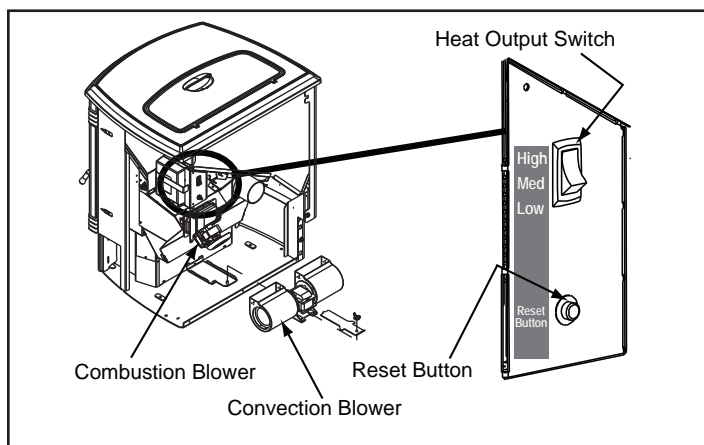
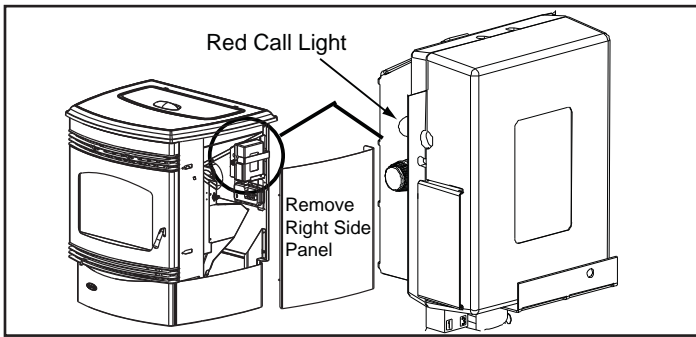

Figure 8.1
Figure 9.1
3. Locate the heat output control switch mounted on the back of the appliance in the upper right corner. **Figure 8.1.** Turn it to the "high" setting by pushing the top of the control switch in and then adjust the thermostat to its highest setting. Remove the right side panel and the red call light located to the left of the control box will be on. **Figure 9.1.** This indicates the thermostat is calling for heat.
3. Occasionally the appliance may run out of fuel and shut itself down. When this happens, the red call light will be on. **See Figure 9.1.** To restart it, fill the hopper and press the reset button. **See Figure 8.1, page 8.** When you press the reset button the red call light will go out. Release the button and the light will come back on. You should see a fire shortly. If not, follow the instructions on **page 8**, of “Starting Your First Fire”.